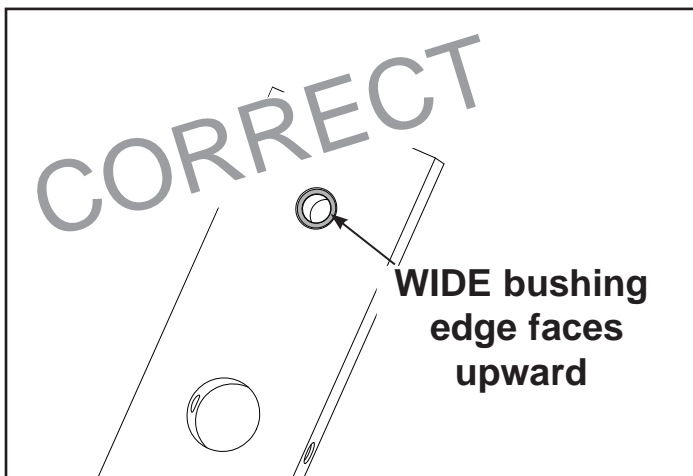

Figure 1A
- N. Carefully align weight plate over guide rods and slowly lower weight plate. **NOTE:** When installing weight plates, position plates so wide edges of bushing face upward and narrow edges of bushing face downward. See Figures 1A and 1B.